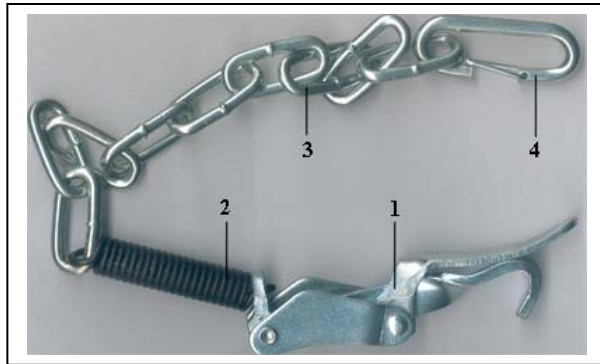

Figure 2: Boomer Assembly Part # 03.0102.011
Place the Boomer Assembly (Figure 2) around the pipe and attach to the Boomer Eye on the Machine Saddle. Place the Spring Snap (4) into the Boomer Eye on one side of the Machine Saddle.